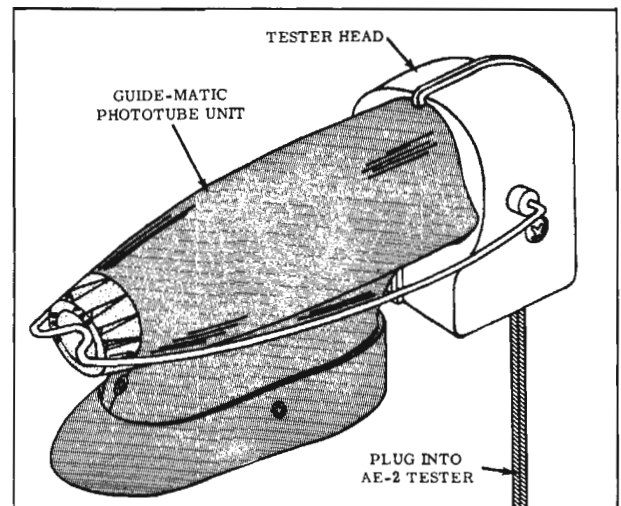

Fig. 13-36 Tester Head Installation
1. Place tester head against front of phototube unit and position bail into place over sensitivity control knob. Plug tester head into modified AE-2 tester. (Fig. 13-36)